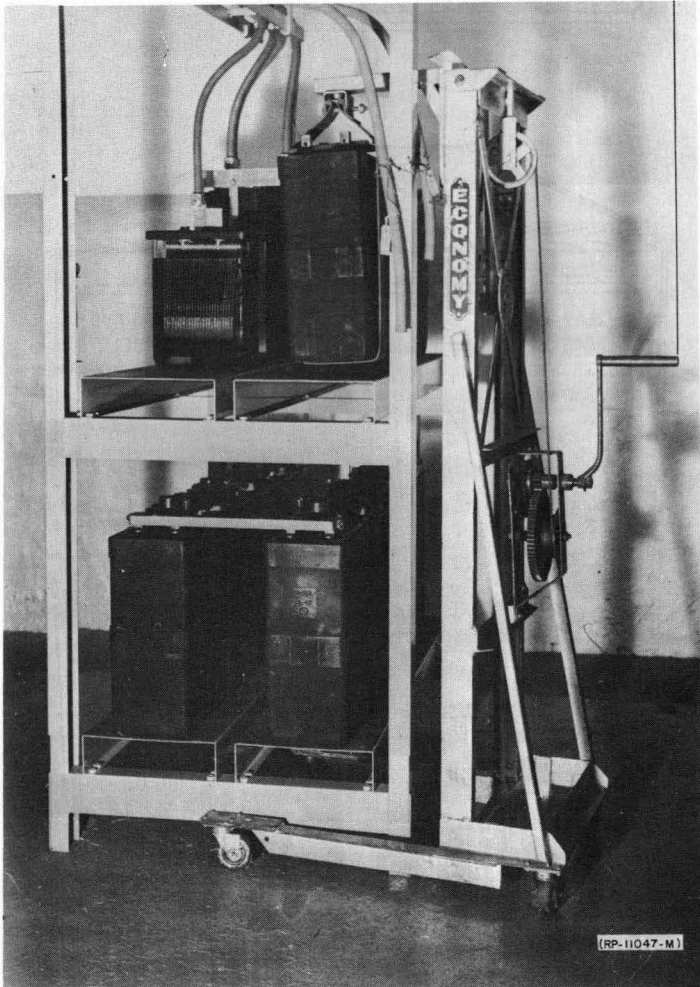

FIG. 3 R-2667 OR R-3870 BATTERY HOISTS IN USE (PARS. 8.1 & 8.2)
8.1 The R-2667 and the R-3448 hoist shown in Figures 3 and 4 will operate safely and satisfactorily when maintained in accordance with instructions in Handbook 28.